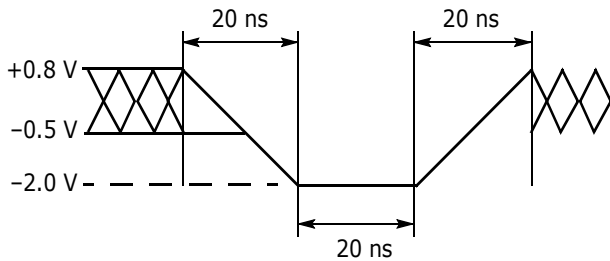
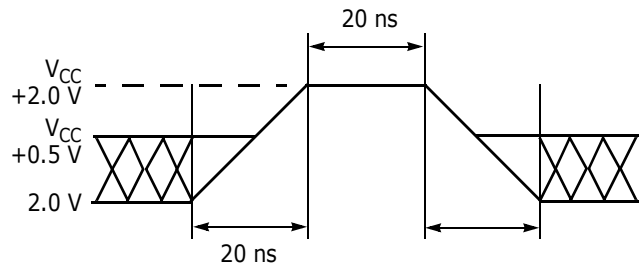

Figure 7. Maximum Negative Overshoot Waveform
Figure 8. Maximum Positive Overshoot Waveform
1. Minimum DC voltage on input or I/O pins is -0.5 V. During voltage transitions, input or I/O pins may overshoot  $V_{SS}$  to -2.0 V for periods of up to 20 ns. See Figure 7. Maximum DC voltage on input or I/O pins is  $V_{CC} + 0.5$  V. During voltage transitions, input or I/O pins may overshoot to  $V_{CC} + 2.0$  V for periods up to 20 ns. See Figure 8.
2. Minimum DC input voltage on pins A9, OE#, and RESET# is -0.5 V. During voltage transitions, A9, OE#, and RESET# may overshoot  $V_{SS}$  to -2.0 V for periods of up to 20 ns. See Figure 7. Maximum DC input voltage on pin A9 is +12.5 V which may overshoot to 14.0 V for periods up to 20 ns.